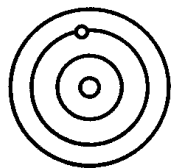

Fig. 3.10 : Bohr's model
1. The electrons move in a definite circular paths around the nucleus (Fig. 3.10). He called these circular paths as **orbits** and postulated that *as long as the electron is in a given orbit its energy does not change* (or energy remains fixed). these orbits were therefore referred to as **stationary orbits** or **stationary states** or **non radiating orbits**.